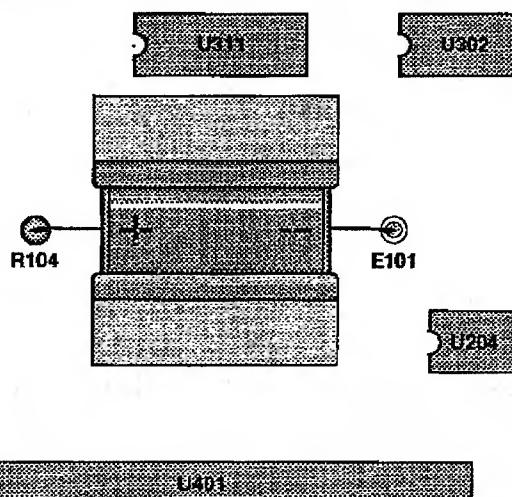

Fig. 4.1 View of Battery from Rear of Instrument
- Remove the battery (refer to *Fig. 4.1*):
- c. Remove the battery (refer to *Fig. 4.1*):